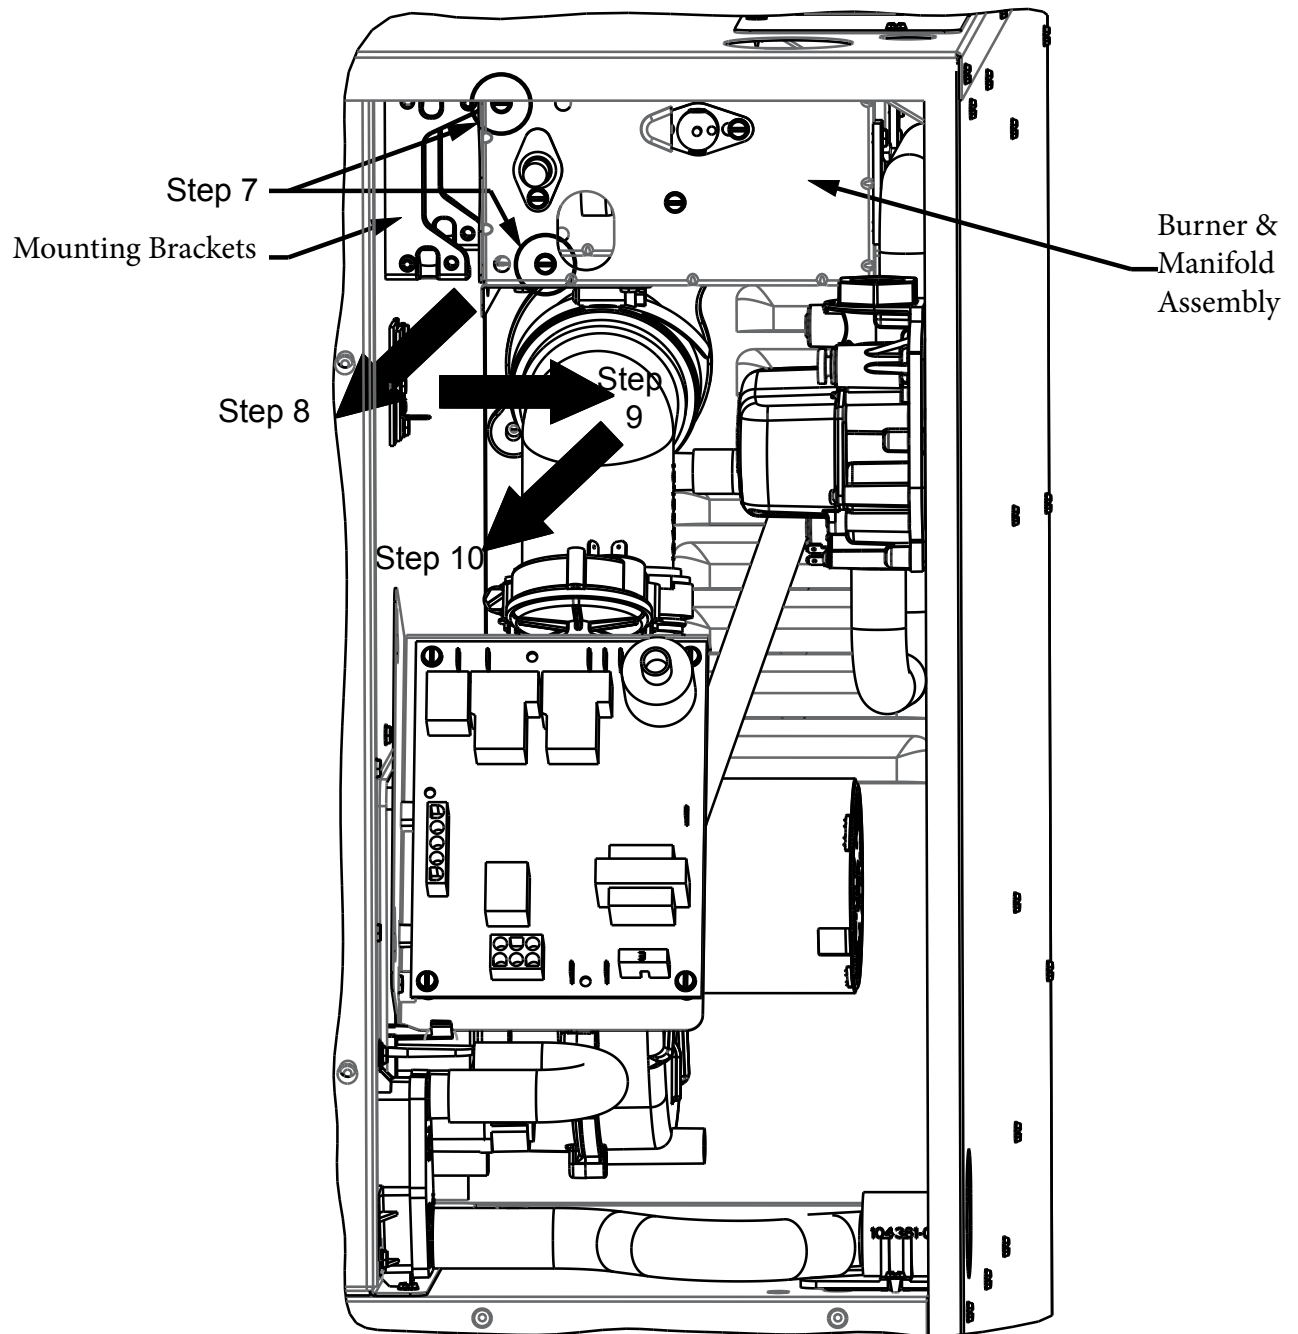

Figure 8
7. Refer to Figure 8. Remove the two screws on the burner assembly that secure it to the mounting brackets. The mounting brackets contain pins to locate the assembly and hold it in place after the screws are removed. The mounting brackets are hidden until the burner assembly is removed.